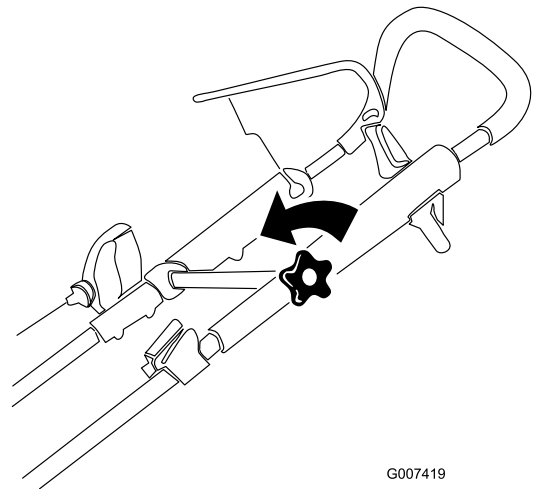

Figure 12
- Loosen the upper handle knob (Figure 12).